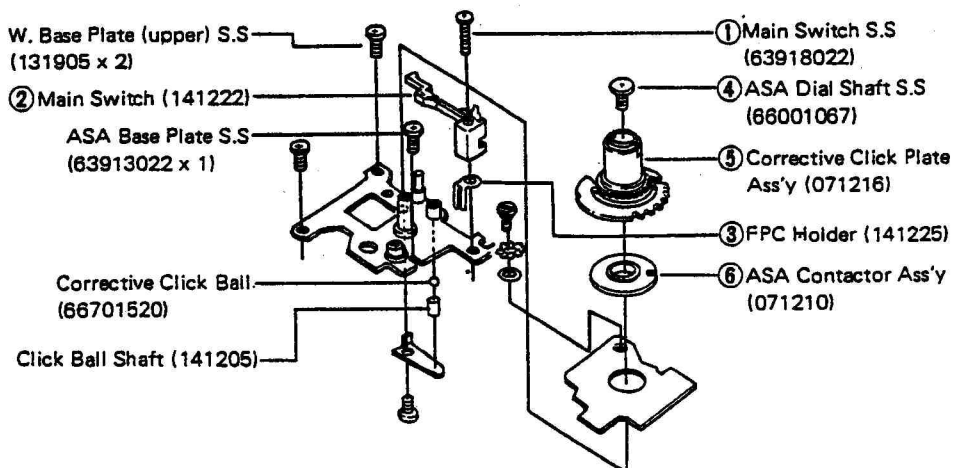

Fig. 56
h) Remove the respective parts ① ~ ⑥ shown in (fig. 56) in numerical order.
j) Remove the Winding Base Plate (upper) S.S. (131905 x 2) and ASA Base Plate S.S. (63913022 x 1). See (fig. 56)